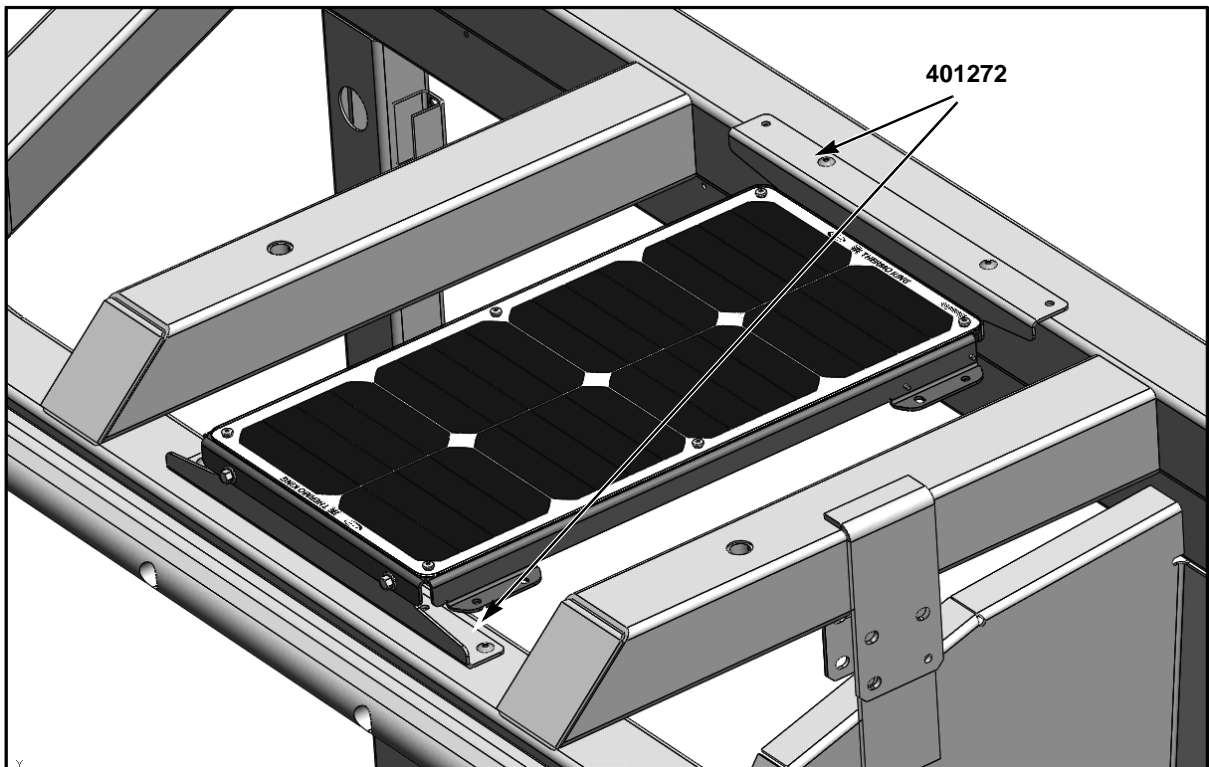

Figure 3
3. Attach adapter bracket (401272) to each side of the solar panel assembly with supplied hardware (**Figure 3**).